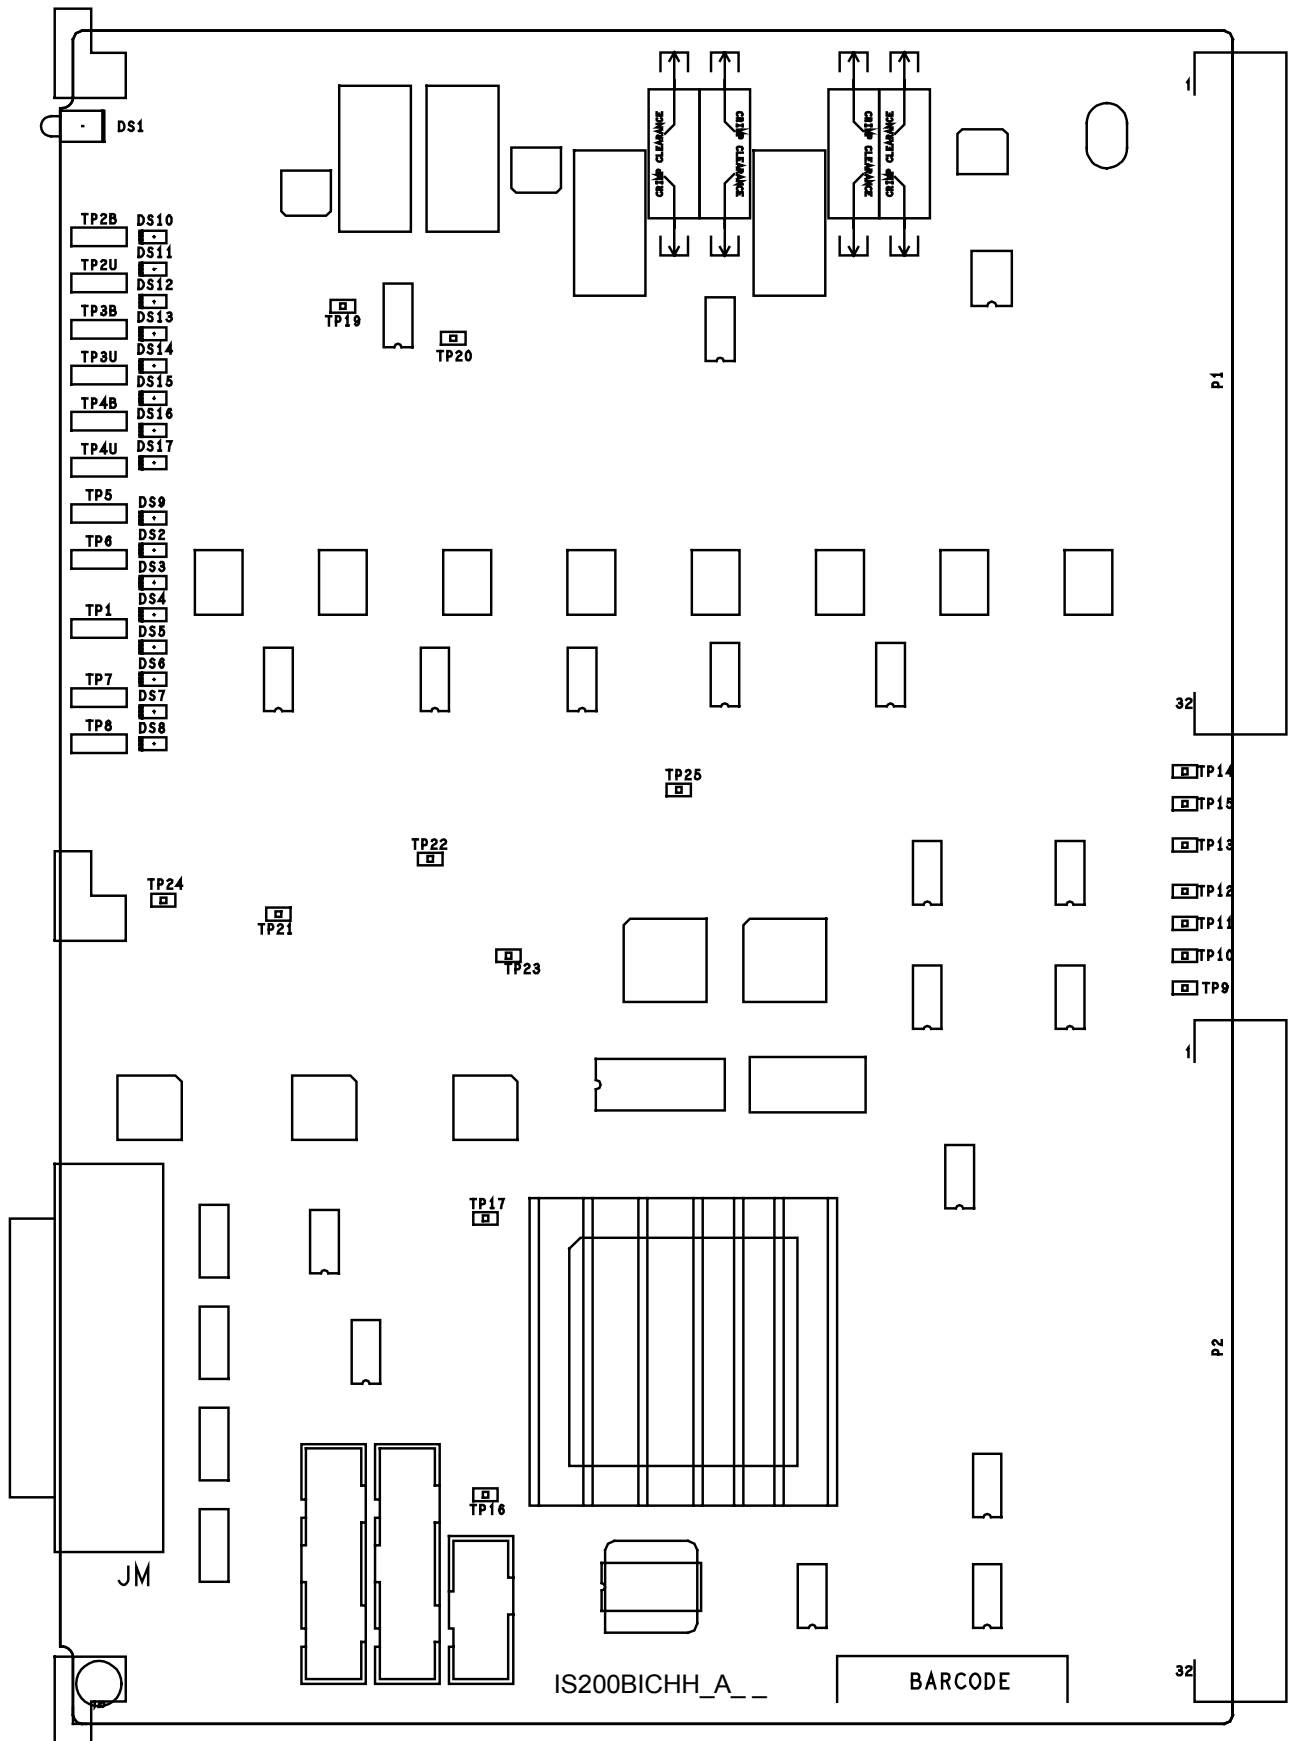

Figure 2. BICH Board Layout Diagram
The BICH board has no adjustable hardware. The board has 29 testpoints and 18 LED indicators for signal observation. The BICH board also has one plug connector (JM) and two backplane connectors (P1 and P2). Two fuses, FU1 and FU2 are included on the inputs to the local (FU1) and system (FU2) fault strings. These are 250 V, 200 mA replaceable fuses, part #44A725207-004. See Figure 2 for the locations of these components and the following tables for descriptions: